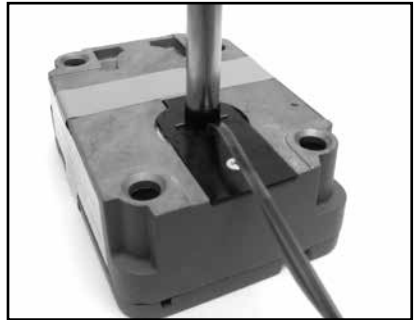

Figure 10 - Seat Inner Tube in Retainer
- Place the inner tube into the lock case tube retainer. Make sure the cutout in the tube aligns with the cables and allows the tube to seat completely in the tube retainer. (See Figure 10.)